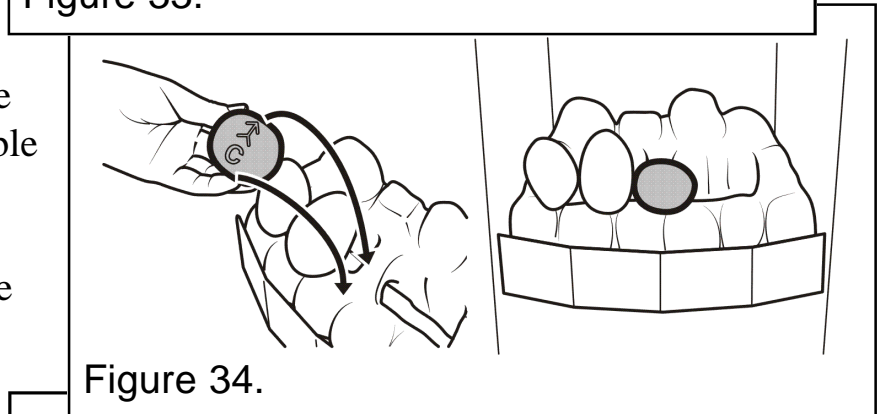

Figure 34.
5. Hold pebble 'C' upright with the arrow pointing to the top. Place pebble "C" on top of the base pebble (See figure 34).